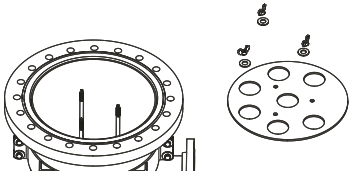

Figure 27.
5. Remove the wing nuts and washers from the cartridge hold-down plate, Figure 27.